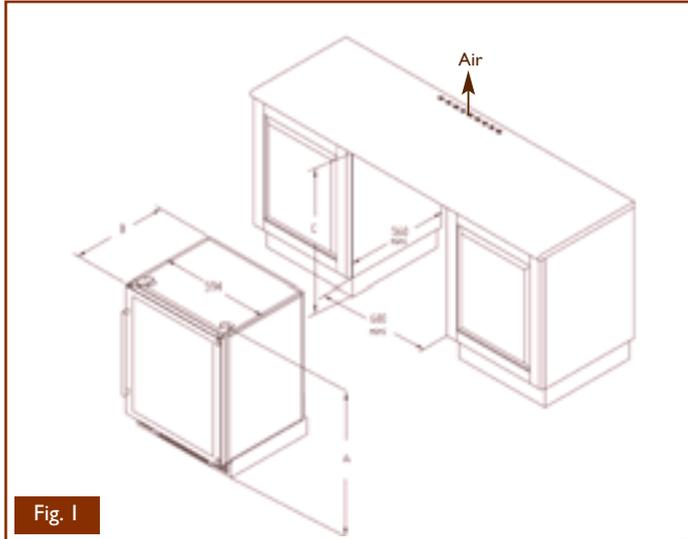

Fig. 1
- Dimensions to be observed for a solid or glass door (Fig.1):